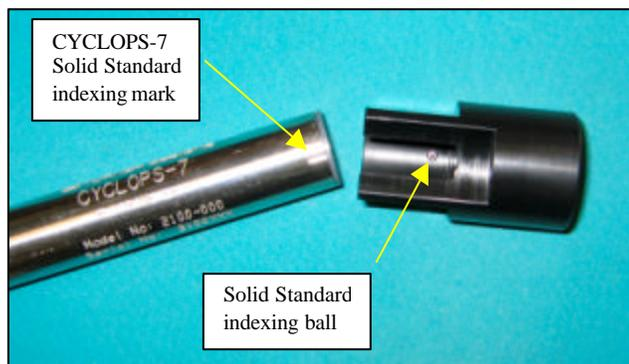

Figure 3.
- 1) Before installing the Solid Standard you must ensure that the optical surface of the CYCLOPS-7 is completely clean and dry. The Solid Standard is indexed and it must be installed so that the indexing is precisely aligned for proper use (see Figure 3).